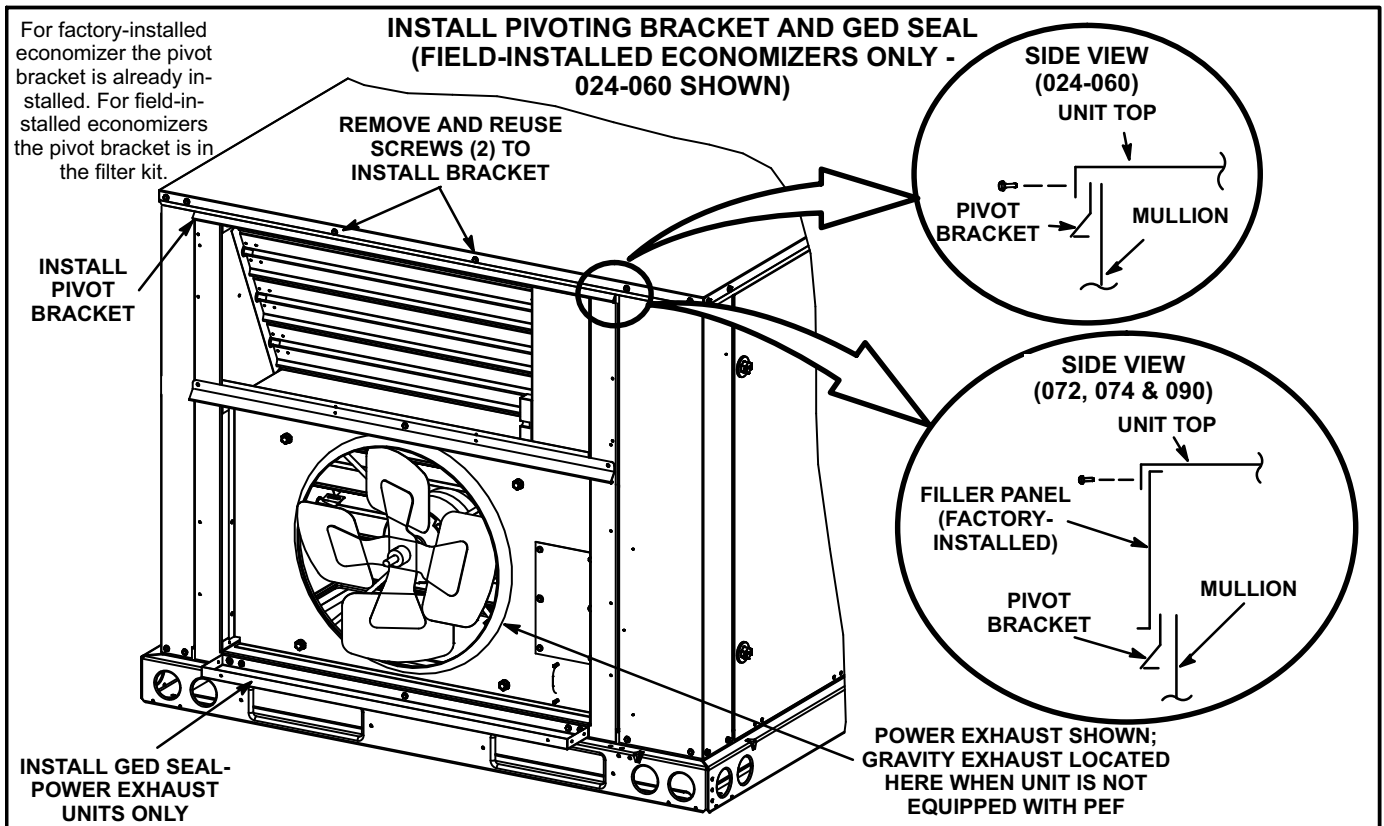
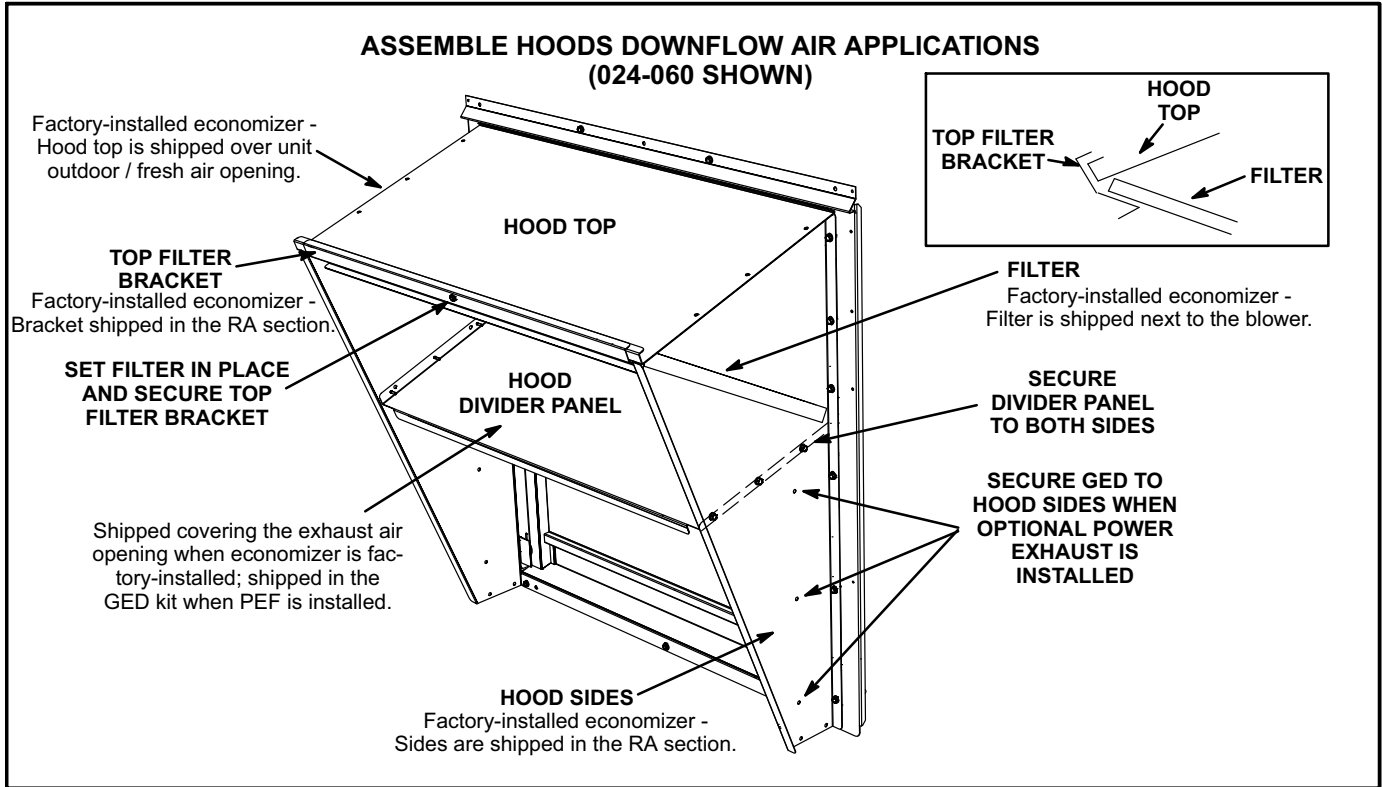

FIGURE 8
FIGURE 9
- 2- Install the power exhaust fans and GED seal in the unit. See figure 8. See the next section to install the outdoor/exhaust air hood. Install the GED in the lower/exhaust hood. See figure 9.
- 2- Install pivot bracket as shown in figure 8.
- 3- Assemble hood as shown in figure 9. Slide top of hood into the ends of pivot bracket. Install top filter bracket after filter is in place.